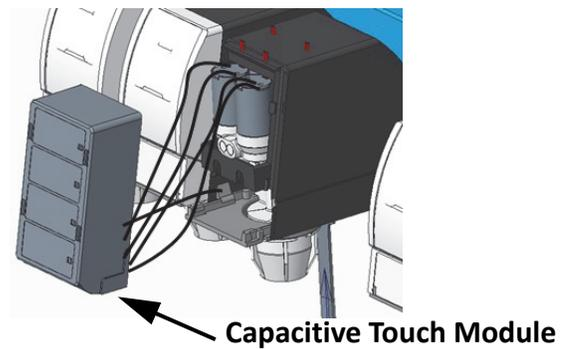

Figure 37.
2. Route the wires from valve body and connect with capacitive touch module, refer Figure 37.